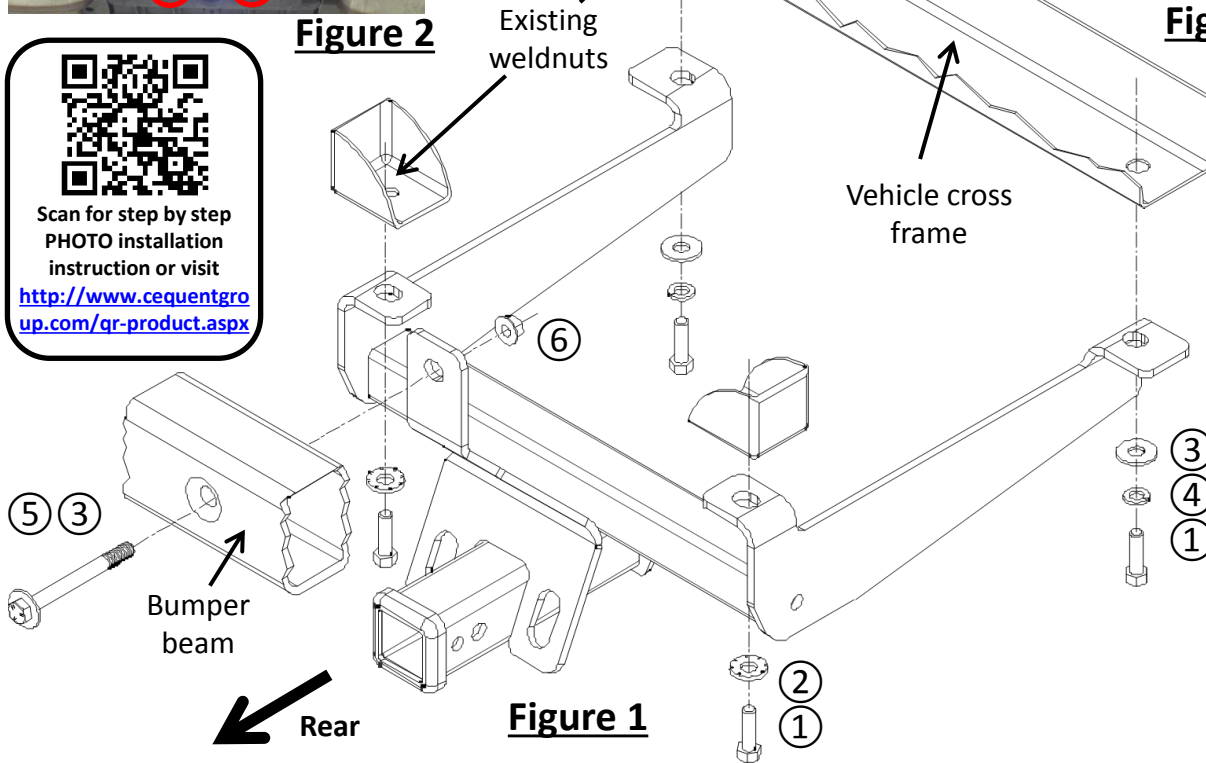

Figure 1
- Hitch installation – raise the hitch into position and loosely install M12 bolt ① with washer ② at rearward vehicle cross frame weldnuts, and M12 bolt ① with washers ③④ at forward vehicle cross frame weldnuts, see Figure 1. Insert bolt ⑤ and flat washer ③ into bumper beam and loosely secure it with flange nut ⑥, see Figure 3.
2. Hitch installation – raise the hitch into position and loosely install M12 bolt (1) and washers (2) (3) (4) through bracket slot into frame weldnuts, see Figure 1. Insert bolt (5), and flat washer (3) into bumper beam and loosely secure it with flange nut (6), see Figure 3.